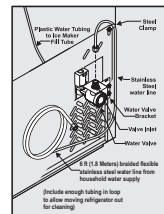

Figure 2
**If you use braided flexible stainless steel tubing** - The nut and ferrule are already assembled on the tubing. Slide compression nut onto valve inlet and finger tighten compression nut onto valve. Tighten another half turn with a wrench; DO NOT over tighten. See Figure 2.